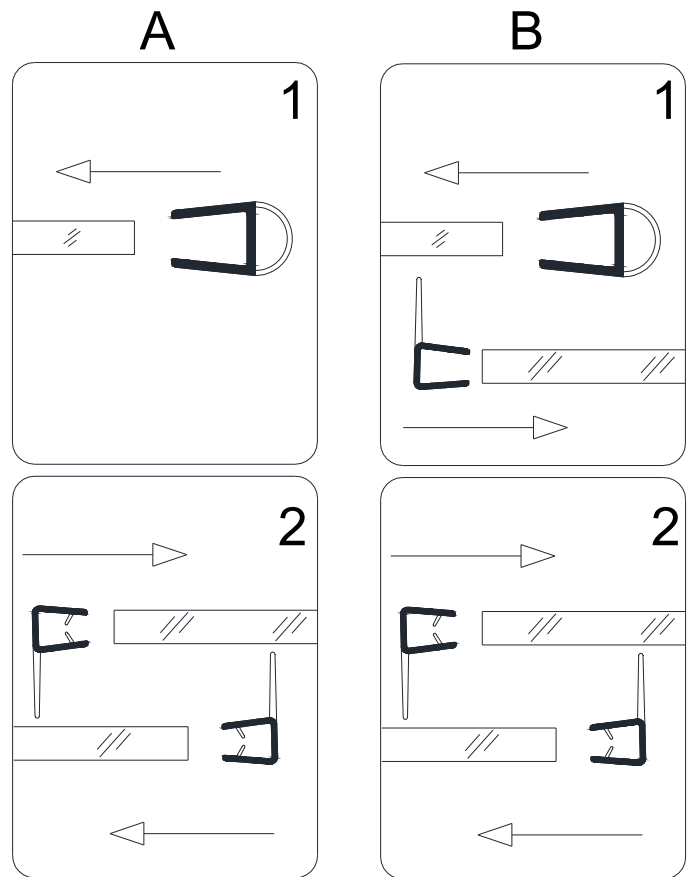

Fig. 25
See Fig. 25 for details.
Press **Anti-water strip (25)** on the vertical edge of the **Small Stationary glass (24)** if width of your unit is **72"** as shown in Fig. 25 (B)